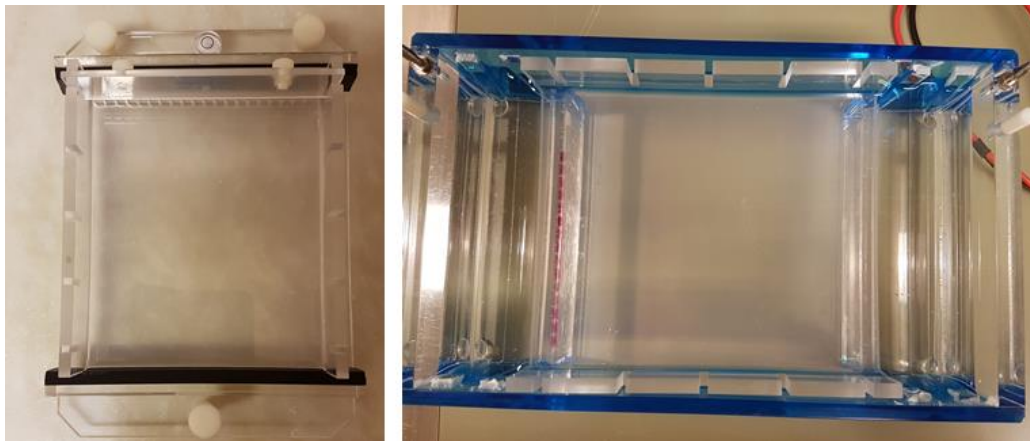

Fig. 1. Preparation of an agarose gel. Left: gel rig, right: a loaded agarose gel in an electrophoresis tank filled with TBE buffer
- Prepare and assemble the gel rig according to Fig. 1 (left)
- Put the gel in the electrophoresis tank, as described in Fig. 1 (right)